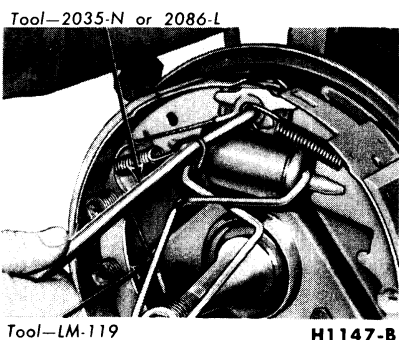

FIG. 16—Retracting Spring Installation
6. Install the primary shoe to anchor spring (Fig. 16).
8. Install the secondary shoe to anchor spring with the tool shown in Fig. 16.